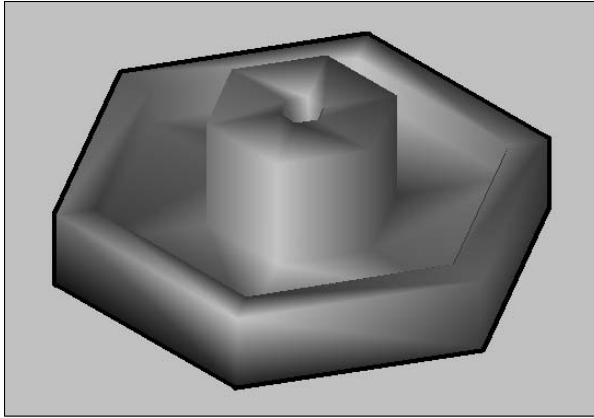

**Figure 22-17:** The model with the MyRealistic custom visual style.
11. Close or hide the Visual Styles Manager. From the Dashboard, choose the Realistic visual style. Then choose the MyRealistic visual style to see the difference. Your model should look like Figure 22-17.